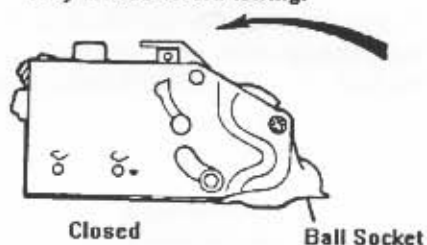

Figure P7: Surge Brake Actuator & Coupling Assembly
For boat models with the Surge Brake Actuator and Coupling Assembly shown in Figure P7, lift the release handle to unlock the coupler. The optional locking pin or a padlock may be inserted in the locking lever hole to secure the trailer. Refer to Section P-3 Operation for additional
2. Hold release handle in open position. See Figure P7.
- Move the lever knob on the side of the actuator downward from the "Towing Position" along the curved slot in the actuator frame to the "Back-up Position". Refer to Figure P7. The slot has a notch at the bottom of its travel. Push the lever knob down to engage the locking notch.